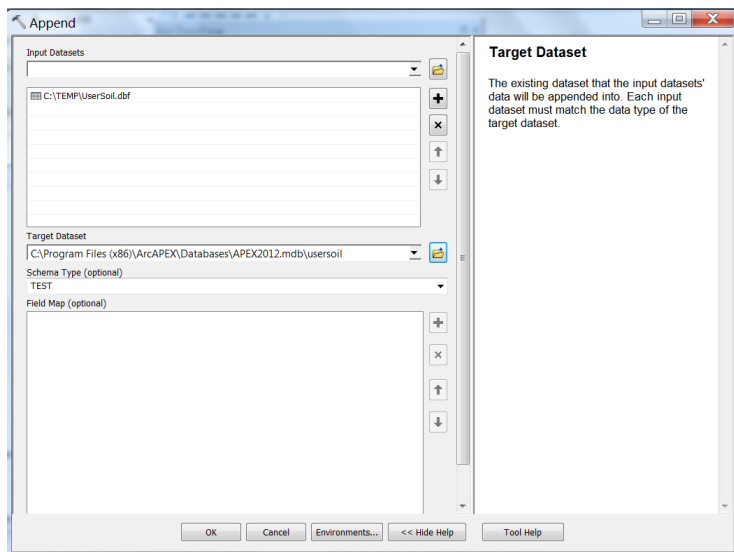

Figure C.2 The Append dialog box
2. Launch the tool and select the customized table of user soil records you wish to append as the Input Features and select the **C:\APEX\ArcAPEX\Databases\APEX.mdb/usersoil** table as the **Output Features** (Figure C.2). Click **OK**.